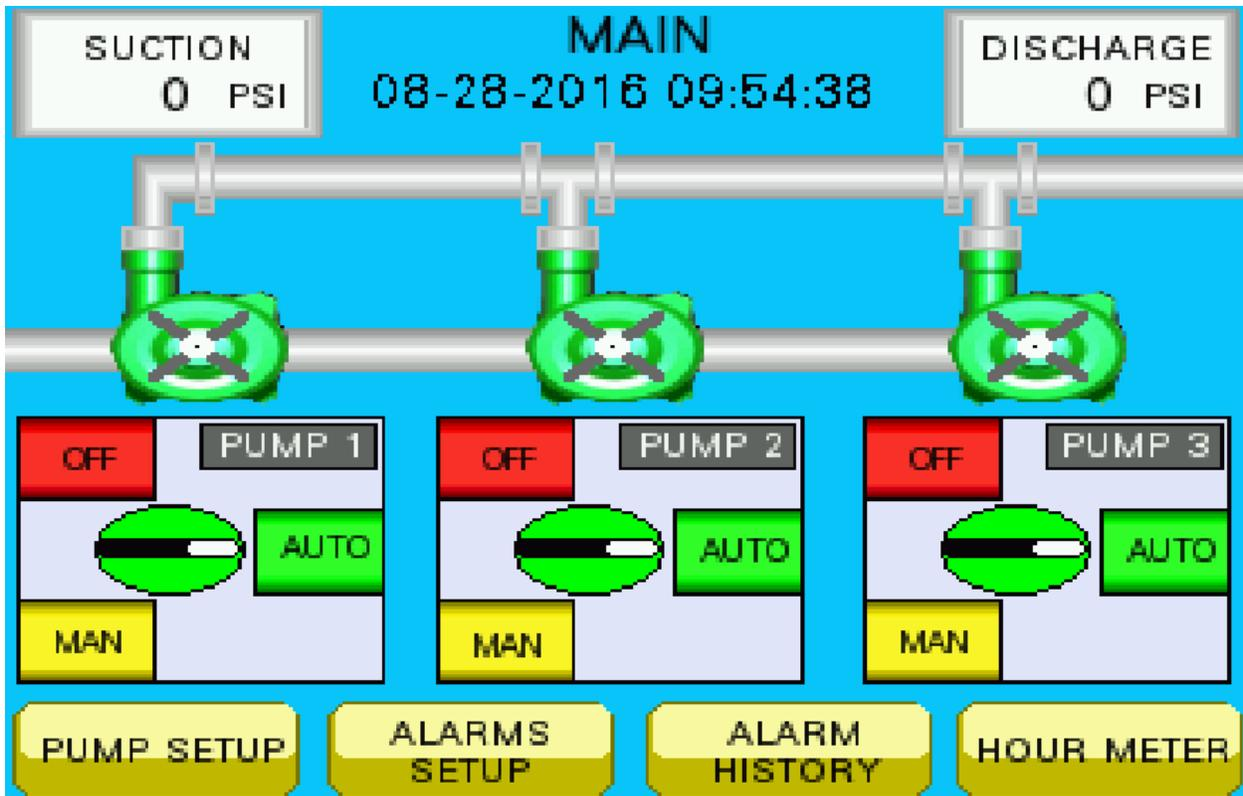

Figure 1.9
12. Now press the green AUTO button next to the HOA switch under each pump. The screen will look like figure 1.9 below and your system should now be running. If the pumps are running they will appear green and you will see the impellers of each pump rotating. (If your system uses a float switch rather than a suction transducer the suction readout will not appear on your screen)